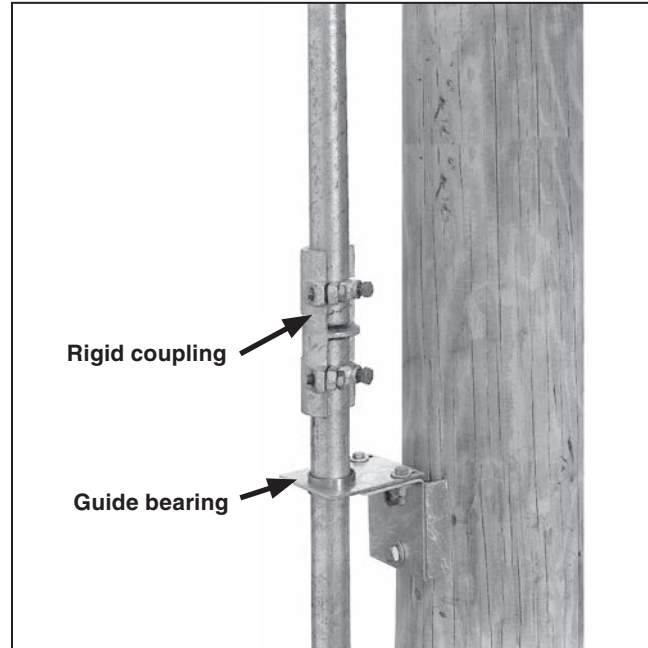

Figure 20. Install the guide bearing for additional pipe section(s).
STEP 15. Install a guide-bearing assembly with each additional vertical operating-pipe section, positioned in accordance with the dimension shown on the erection drawing. See Figure 20. The thrust bearing is only necessary on the uppermost guide bearing. Use rigid couplings to join these additional pipe sections. Before installing the coupling, back the piercing set screws out of the coupling body so they do not protrude into the coupling.
STEP 16. Tighten the piercing set screw of the thrust bearing immediately above the last section of pipe to final tightness, piercing the pipe, and continue tightening until a firm resistance is felt. See Figures 20.●